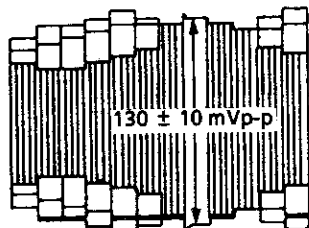

Figure 2-10.
4. Adjust R208 (recording Y control) so that the sync tip be $130 \pm 10\text{mVp-p}$ as shown in Figure 2-10.